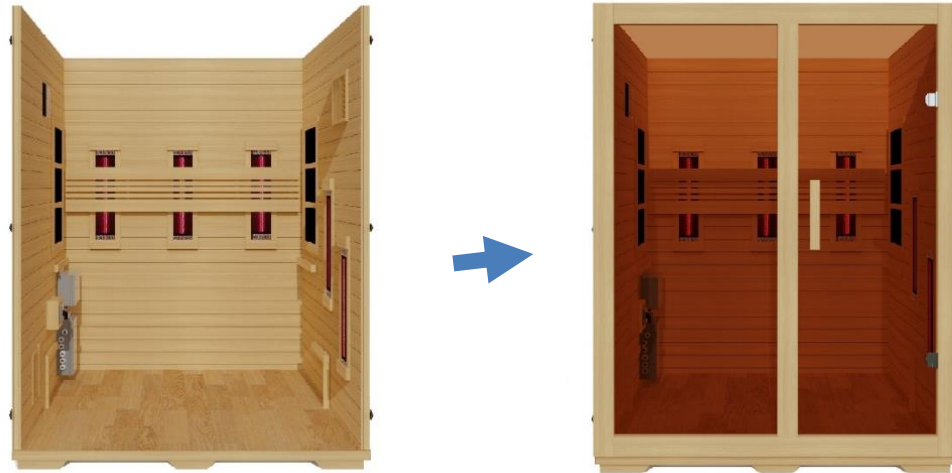

Figure 4
1. Now it is time to install the FRONT WALL PANEL. Place the FRONT WALL PANEL up and onto the FLOOR PANEL next to the RIGHT SIDE WALL PANEL and LEFT SIDE WALL PANEL. Use the buckles to latch the wall panels together. (see Figure 4)